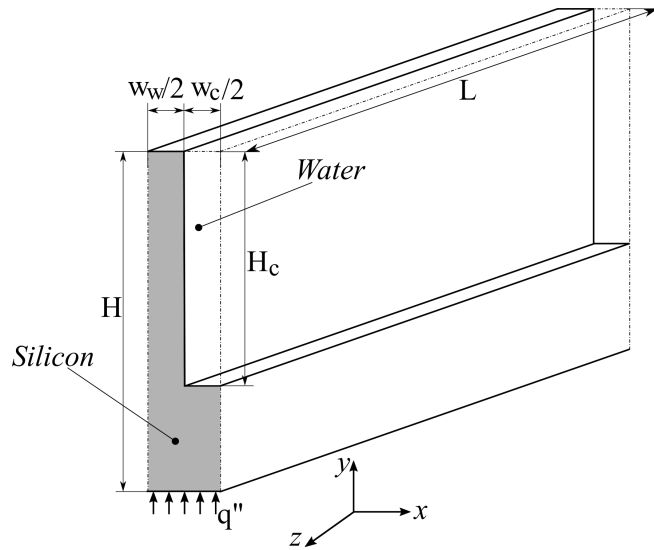
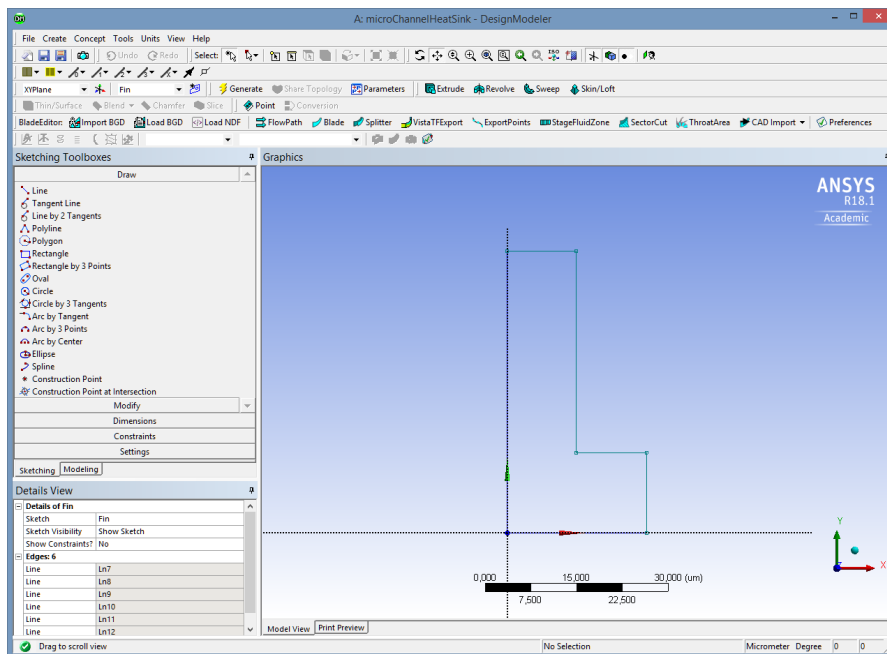

Figure 2: Computational domain for the microchannel heat sink.
Figure 9: Rough sketch of the finned profile.
Since the width of individual microchannels and associated fins ( $w_c + w_w$ ) is small compared to the overall heat sink width  $W$ , a large number of channels are distributed in parallel. For this reason, it is possible to consider, as a computational domain, just a single *repeating module* as depicted in figure 2, using appropriate symmetry boundary conditions.
On this new sketch we have to draw the fin (solid) profile - see figure 2 - and extrude it to create the finned part of the heat sink:
- Starting, for convenience, at the origin of the axis, draw an approximate profile of the extruded finned profile (see fig. 2) illustrated in figure 9, paying attention to have all lines horizontal (the symbol *H* will appear while drawing) or vertical (the symbol *V* will appear while drawing).